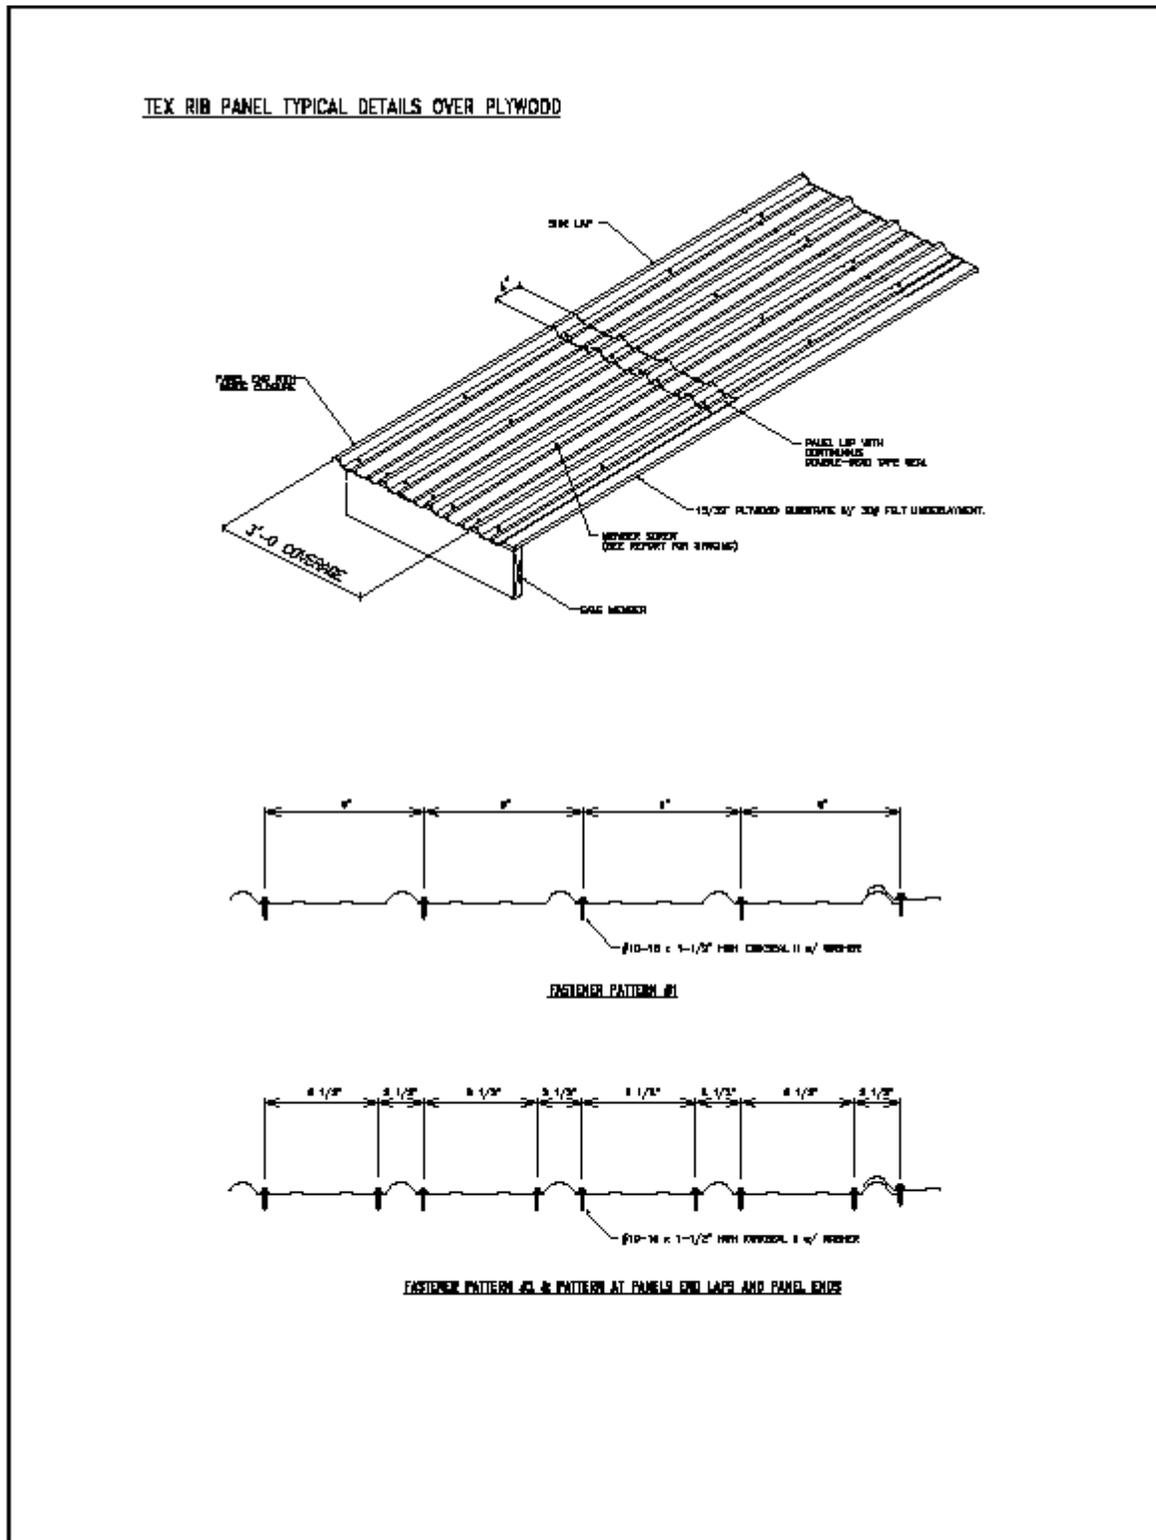
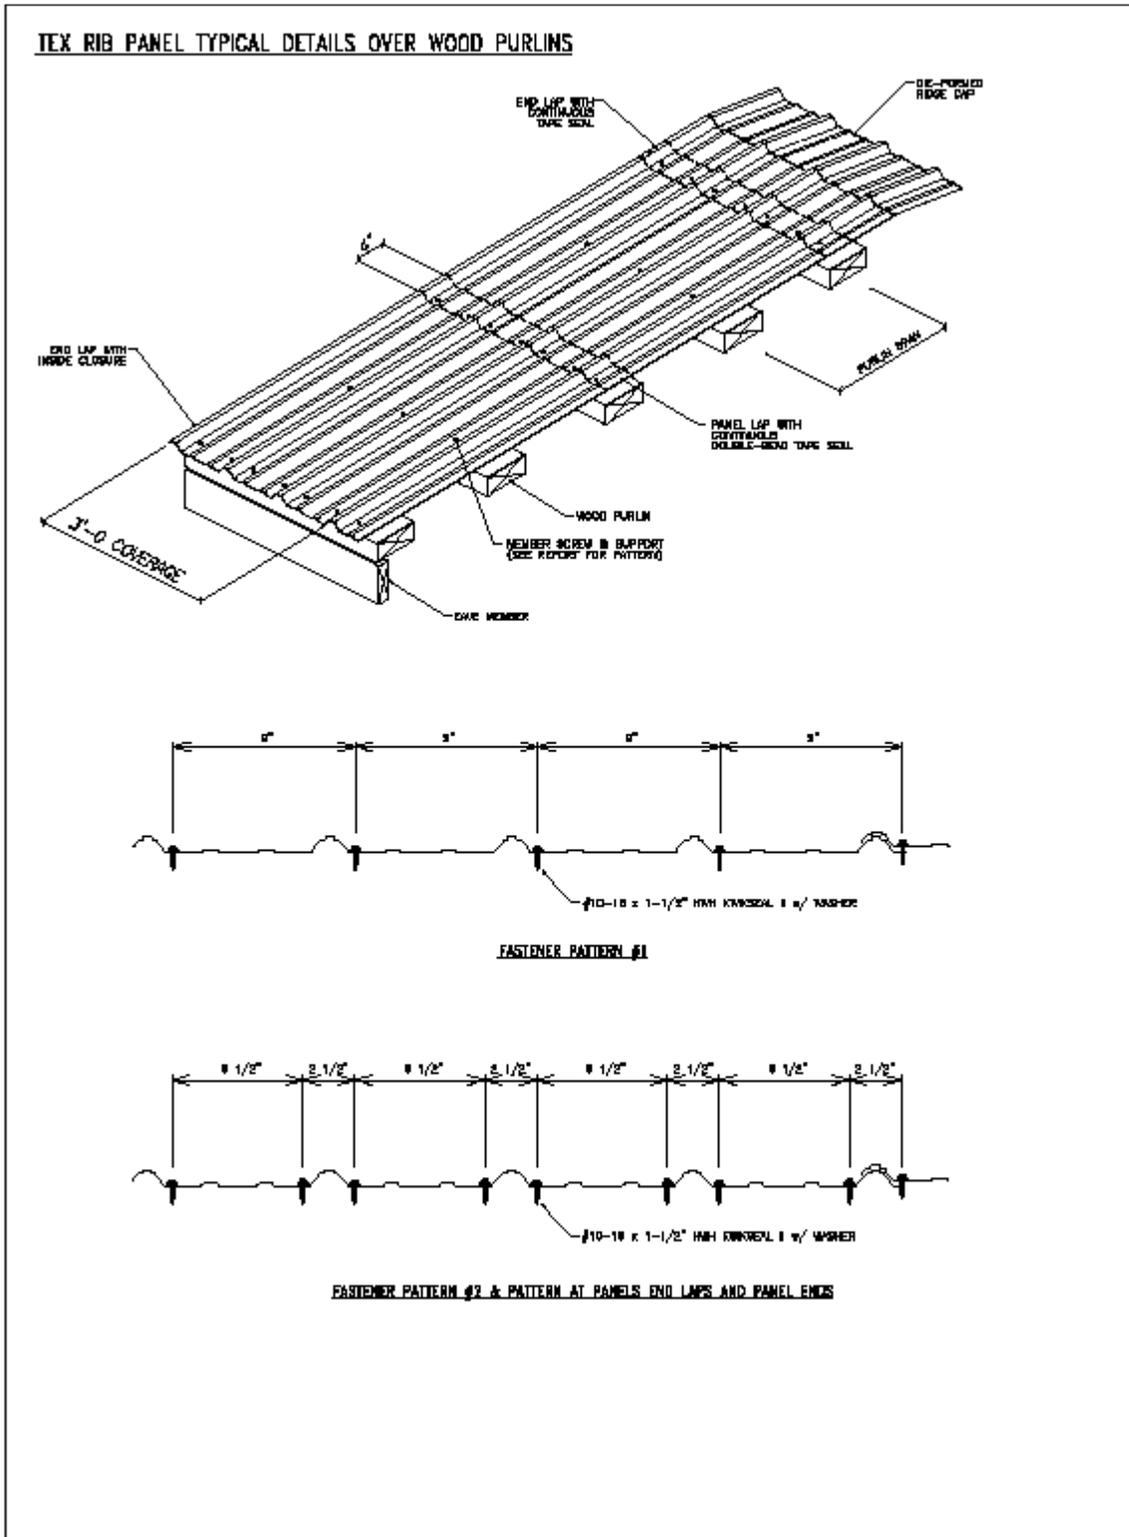

Figure 1. Tex Rib Panel Secured to Minimum 15/32" Plywood
Figure 2. Tex Rib Panel Secured to Wood Purlins
**Roof Panels to the Plywood Deck:** Minimum #10-16 x 1-1/2" Kwikseal II Woodbinder screws, manufactured by Sealtite. The fasteners must be long enough to ensure a minimum penetration of 1/4" below the wood deck. (Note: if the roof panels are installed over an existing roof covering, then the fastener length must be increased so that the fasteners are long enough to a minimum penetration of 1/4" below the existing roof deck). The required fastener pattern must be as specified in Table 1. An illustration of each fastener pattern is shown in Figure 1.
**Roof Panels to the 1x4 Purlins:** Minimum #10-16 x 1-1/2" Kwikseal II Woodbinder screws, manufactured by Sealtite. The required fastener pattern must be as specified in Table 2. An illustration of each fastener pattern is shown in Figure 2.
**Roof Panels to the 2x4 Purlins:** Minimum #10-16 x 1-1/2" Kwikseal II Woodbinder screws, manufactured by Sealtite. The required fastener pattern must be as specified in Table 3. An illustration of each fastener pattern is shown in Figure 2.
**Panel Ends and End Laps:** Minimum #10-16 x 1-1/2" Kwikseal II Woodbinder screws, manufactured by Sealtite. Fastener Pattern #2 as specified in Tables 1-3 must be used. Refer to Figure 1 and Figure 2 for illustrations of Fastener Pattern #2. For solid wood decks, the fasteners must be long enough to ensure a minimum penetration of 1/4" below the wood deck. (Note: if